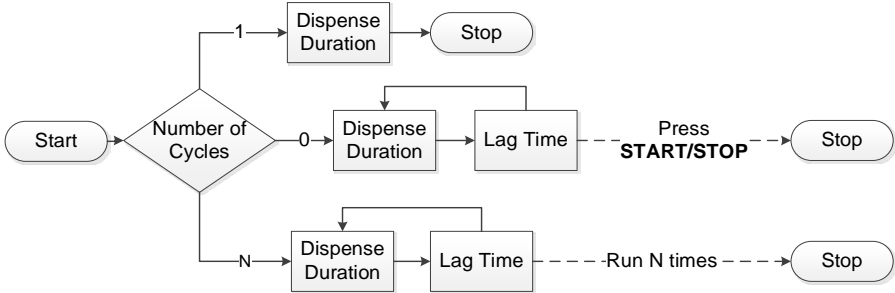

Figure 18. Dispense Cycle Setting
5. Cycle: The number of cycles for Time Dispense mode. The range is 0-999 cycles. If it is set to 0, the dispensing process will keep running until START/STOP is pressed, otherwise, the pump will stop when it finishes dispensing the set number of cycles (Figure 18).